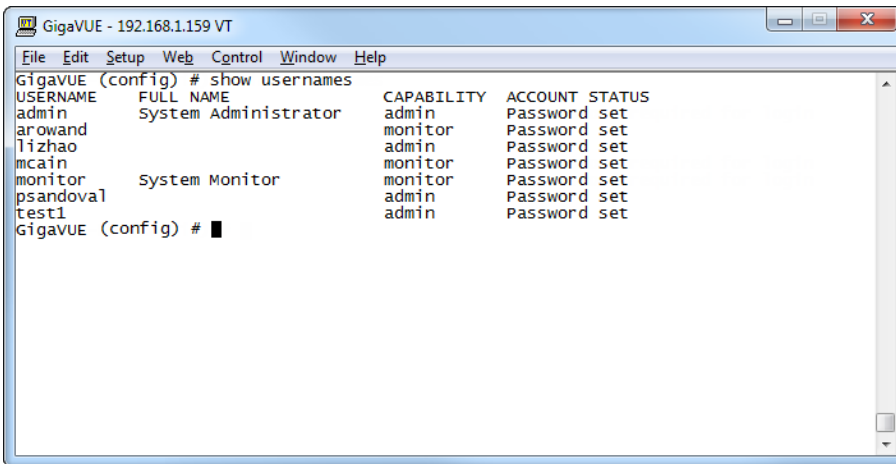

Figure 25 *Reviewing the User List*
2. Once you have configured these basic user accounts, use the **show usernames** command to review your settings. Figure 25 *Reviewing the User List* shows some sample **show usernames** output after several users have been added.